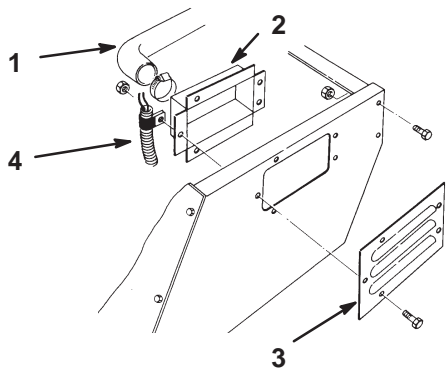

Figure 2
1. Loosen hose clamp securing air cleaner hose to air chamber. Slide hose off air chamber (Fig. 2).
2. Remove (5) cap screws and locknuts securing air chamber, wire harness R-clamp, and air chamber cover to left seat support. Remove air chamber and air chamber cover (Fig. 2).
3. Remove (2) capscrews and locknuts securing left side of hood support to seat support (Fig. 2).